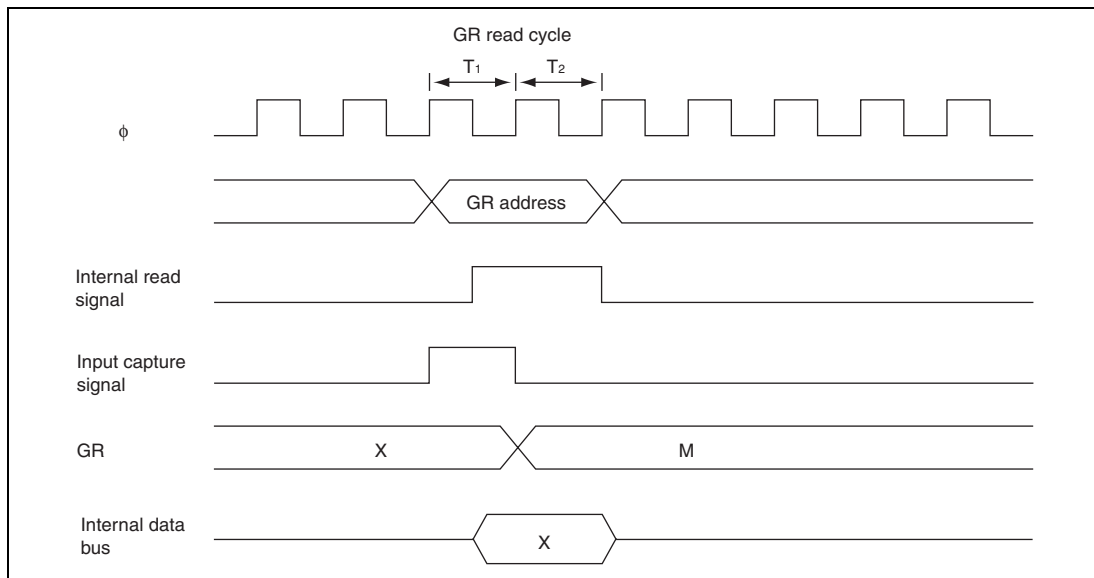

Figure 13.56 Contention between GR Read and Input Capture
5. **Contention between GR Read and Input Capture:** If an input capture signal is generated in the T_1 state of a GR read cycle, the data that is read will be transferred before input capture transfer. Figure 13.56 shows the timing in this case.